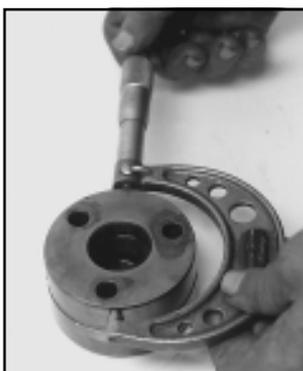

Fig.9-25
- Inspect the gear support journal diameter for wear with a micrometer at two planes and at right angles (Fig.9-25). If wear exceeds the specified limit, replace the gear support. (Having a slot for oil supply to the auto timer) (Refer to Specification Data).